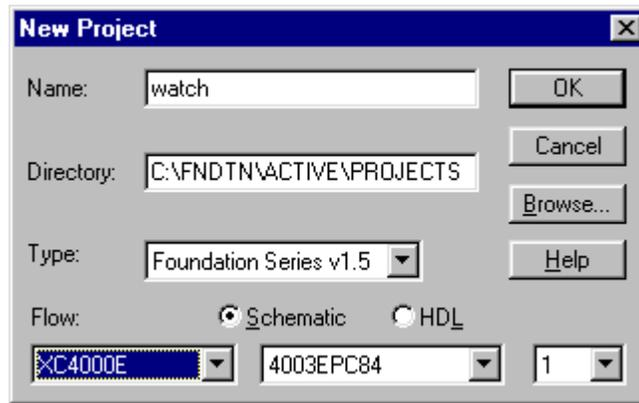

Figure 1. The New Project dialog box.
- 3) In the “**New Project**” dialog box (see Figure 1), enter the project name “**WATCH**”, specify the C:\F1.5labs\ directory, and select the XC4000E family and the XC4003EPC84-3 part. After this information is entered, click on “**OK**”.